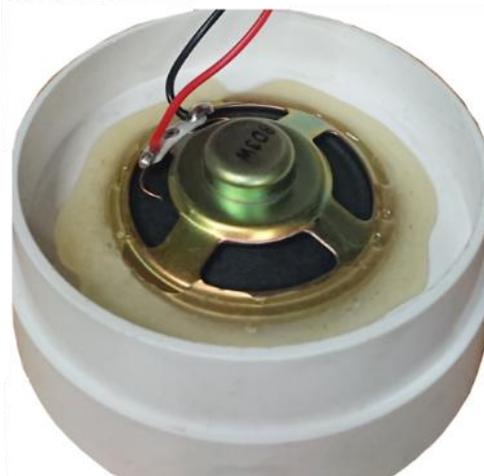

Figure 5: A study showing a speaker connected to wires and with hot-melt wax holding it in place.
- Consider how you wish to mount the speakers into the Mini-Boom Box. Refer to Figure 5 for a suggestion which is using hot-melt wax.